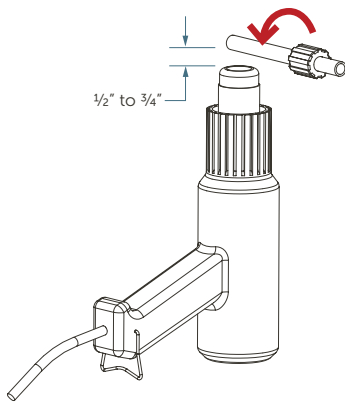

Figure 1.
1. If using an Entegris hot air gun, set the hot air gun (see Figure 1) on "high." Hold the PFA tubing end flush with the heater edge and 1/2" to 3/4" above the heater and slowly rotate the tubing 360° for the approximate time specified in Table 1 or until a fine, clear line appears around the tubing.